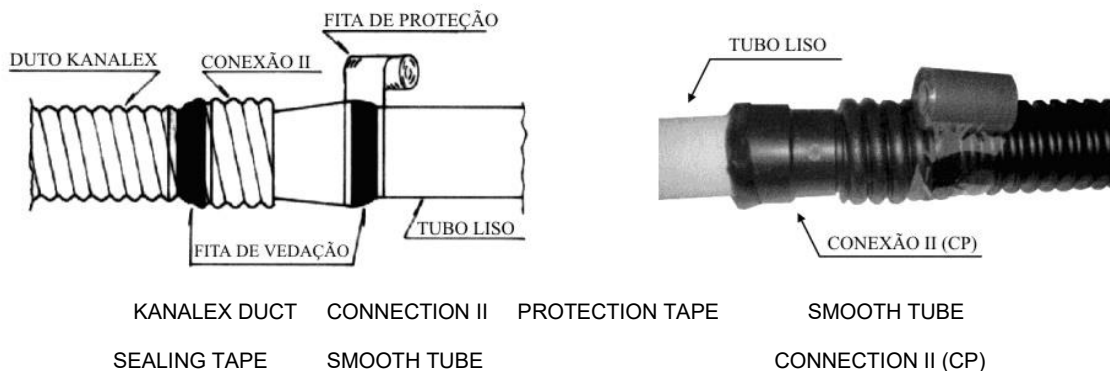

Figure 29
- c) Apply the sealing tape, followed by the protection tape (Figure 29).